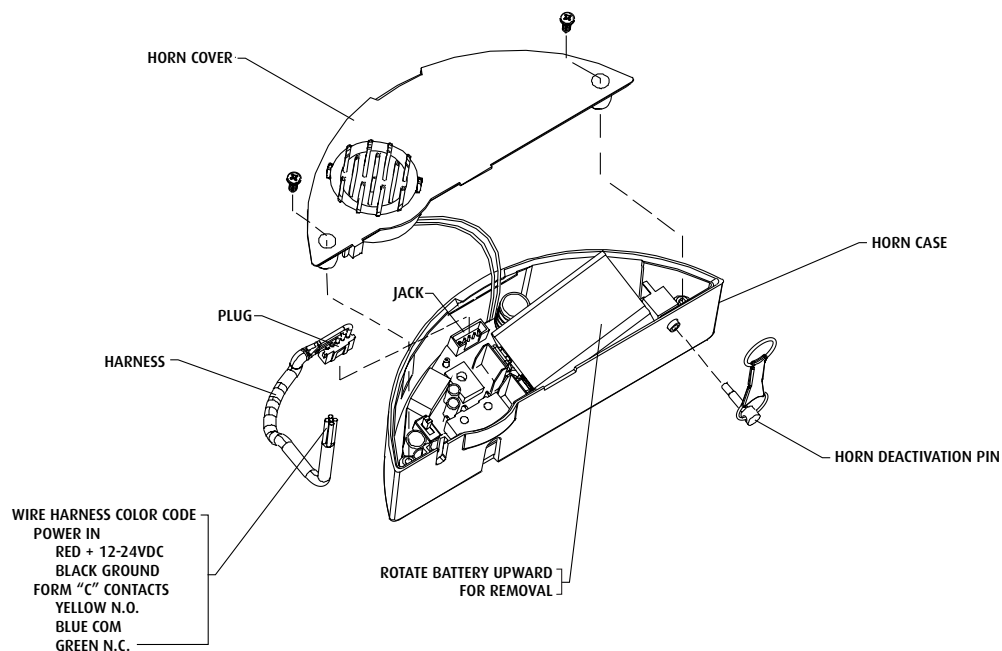

FIG. 1
3. Remove 2 screws in horn assembly and remove horn cover (Fig. 1).
4. Connect wire harness to horn assembly as shown (Fig. 1).